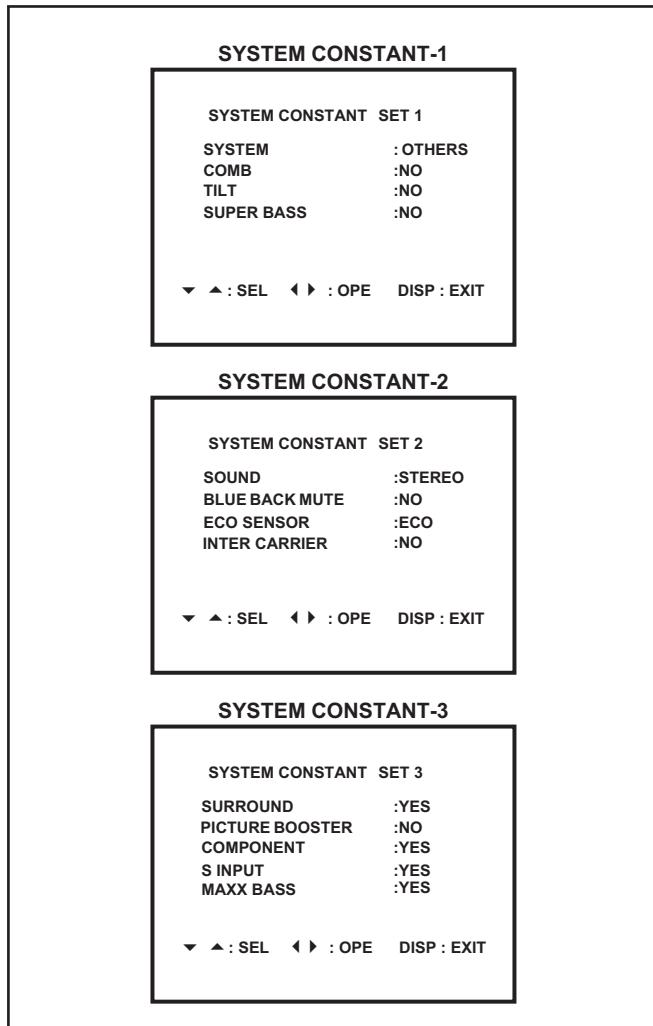

Fig.2
- (3) While the SERVICE MODE is displayed, press the [DISPLAY] key and the [PICTURE MODE] key simultaneously, and the SYSTEM CONSTANT SET screen of Fig. 2 will be displayed.
- (4) Check the setting values of the SYSTEM CONSTANT SET. If the value is different, select the setting item with the [MENU ▲/▼] key, and set the correct value with the [MENU ◀/▶] key.
- (5) Press the [OK] key to memorize the setting value.
- (6) Press the [DISPLAY] key twice, and return to the normal screen.